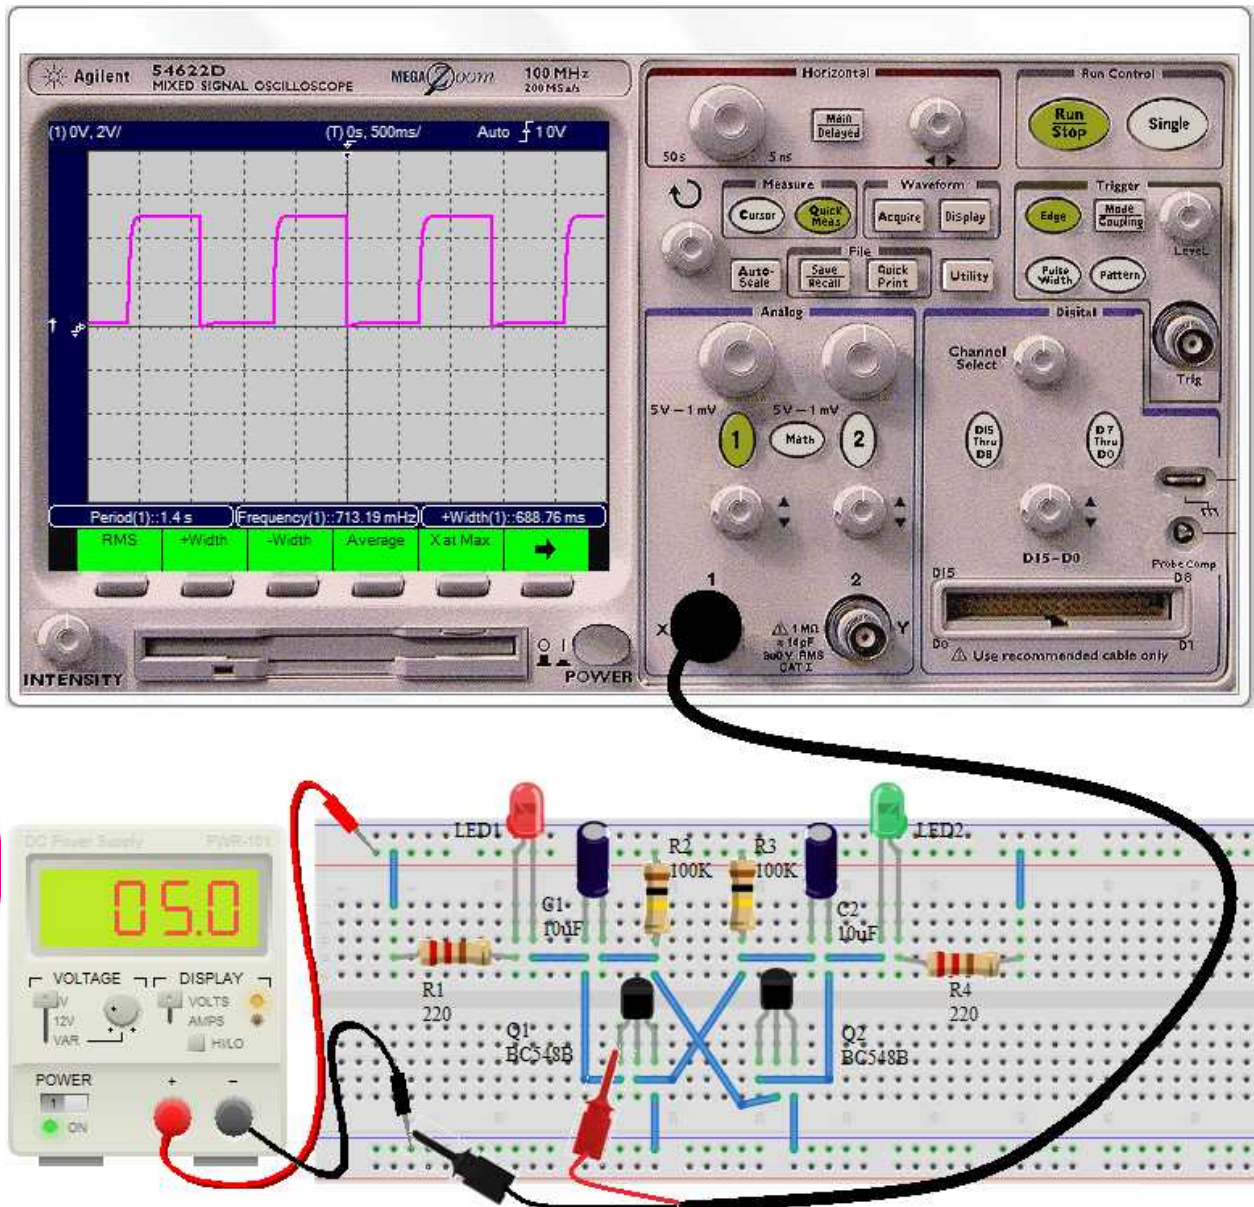

Figure 6-29: Astable multivibrator oscillator circuit connection
1. Connect the circuit as illustrated in figure 6-29. Remember to identify the anode and cathode of LEDs. Anodes are connected to positive of supply through the limiting resistors R_1 and R_4 . Remember also to identify the base, collector and emitter of transistors Q_1 and Q_2 .